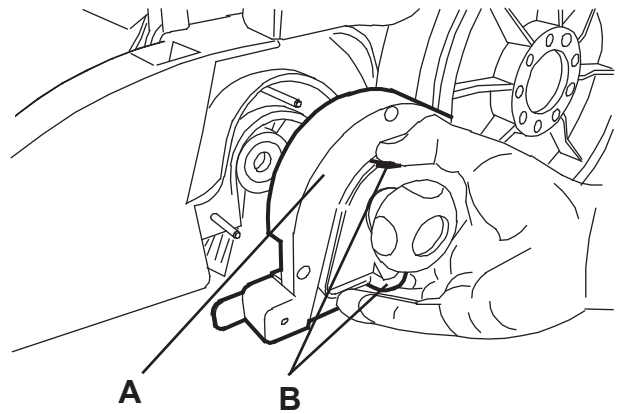

Figure 6
5. Remove the lid (A, Fig. 6) by grasping it on the points (B).